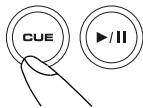

Fig.9
- b. Next, rapidly press the CUE button in sync with the music (figure 9).